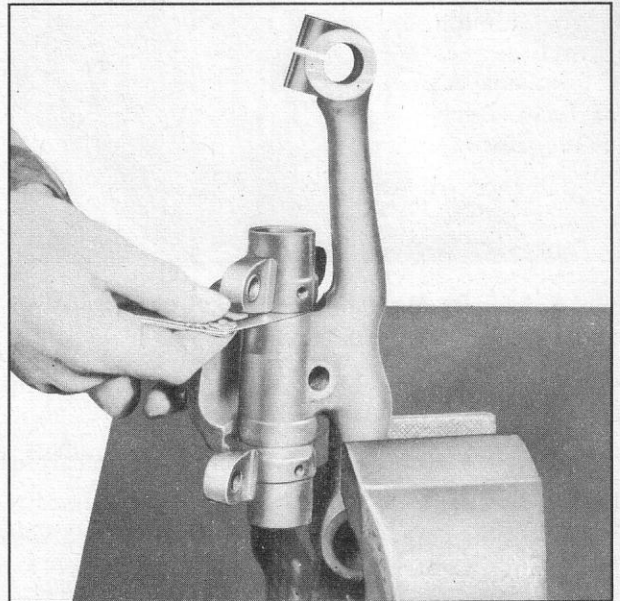

Fig. 27—Checking Steering Knuckle Clearance
3. After the kingpin is installed, check the clearance between the steering knuckle and knuckle support with a feeler gauge (fig. 27). If this clearance is more than .006", install a steel shim between the steering knuckle and top of the steering knuckle support.